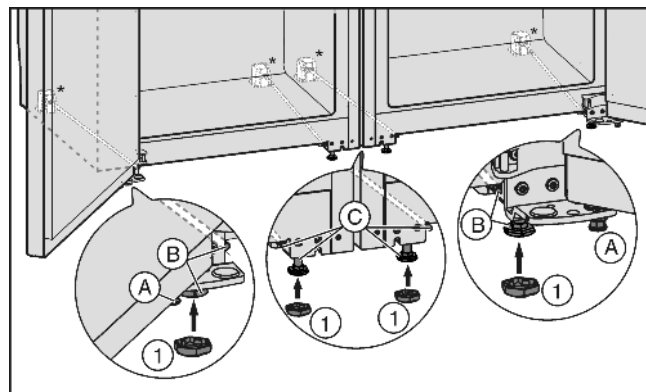

Fig. 4
- ▶ If necessary, completely retract the height-adjustable feet Fig. 4 (A) at the front of both appliances so that they are not touching the floor.
- ▶ Place the caps Fig. 4 (1) onto the four front height-adjustable feet.
- ▶ Retract the centre height-adjustable feet Fig. 4 (C) so they are not in contact with the floor.
- ▶ Level the combination using the outer height-adjustable feet Fig. 4 (B).